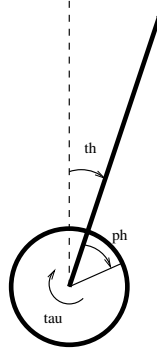

Figure 1: A schematic picture of a segway robot.
2. Consider the segway robot illustrated in Figure 1. The pendulum angle relative to the vertical plane is  $\theta$  and the wheel angle is  $\phi$ . The applied torque is denoted  $\tau$ .